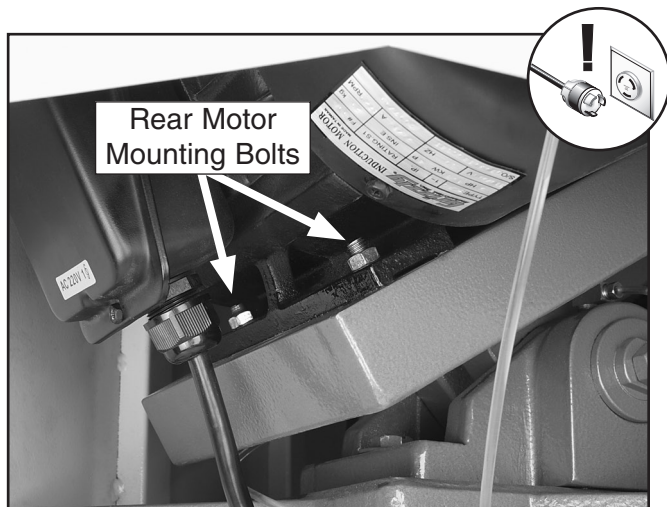

Figure 42. Rear motor mounting bolts.
- Use a 13mm wrench to loosen the two rear motor mounting bolts (see **Figure 42**).